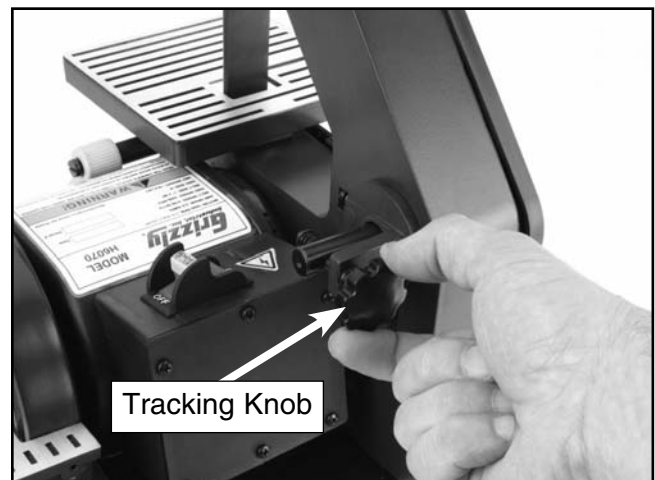

Figure 14. Setting belt tracking.
5. Rotate the belt by hand and turn the tracking knob until the belt tracks at the center of the wheels. See **Figure 14** for belt direction.